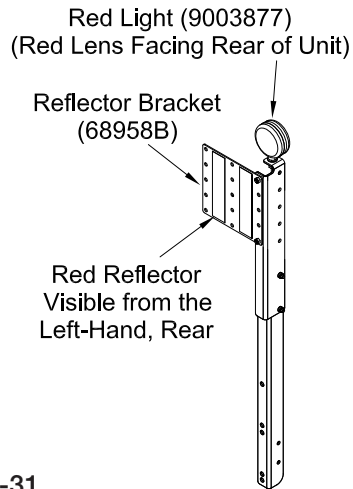

FIG. 2-31
4. Left-hand center reflector assembly is a reflector bracket (68958B) assembled to the stand assembly (69664B). Assemble reflector bracket and red light as shown in FIG. 2-31.